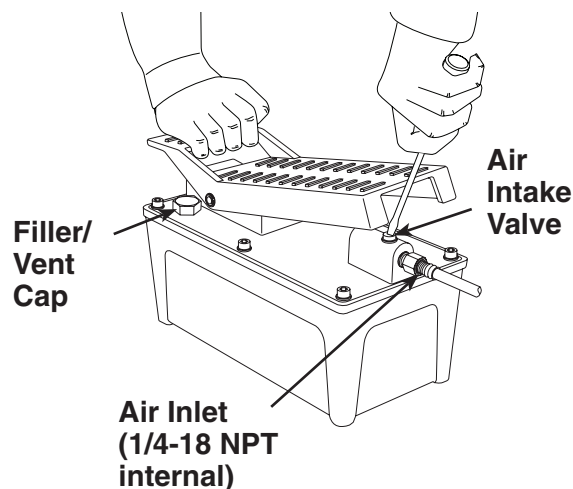

Figure 2
1. Press the release end of the pedal while holding down the air intake valve with a flathead screwdriver. The air intake valve is located directly under the pedal in the area marked . The valve is depressed simultaneously with the  area of the pedal during priming. See Figure 2.